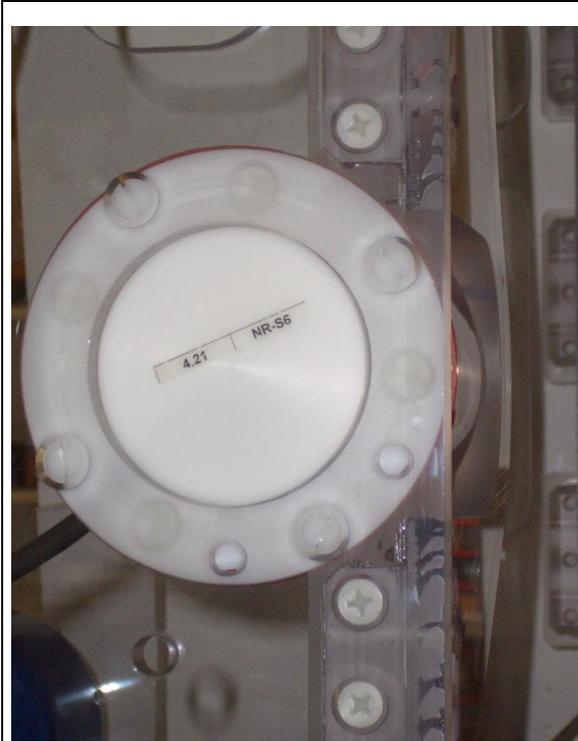

Figure 9: normal fitting holes
- bring the adjust pin in the Ema Cube's wall in a position that its flat side is looking to the outer side when it comes into the transmitter (shown in Figure 9)
In case your Ema Cube looks like Figure 9, the fitting holes are normal and you can mount the transmitter in the same way as the other ones.
- fix the snap ferrite with one cable tie before and one cable tie behind (figure 9)